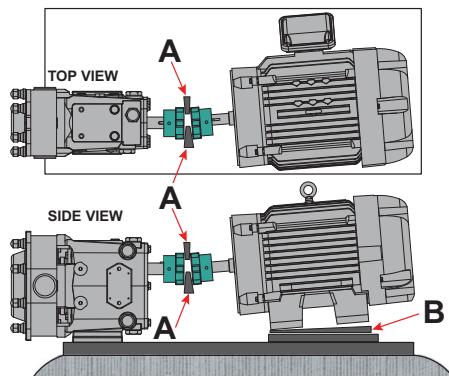

Figure 23 - Check Angular Alignment
- Using feeler gauges or taper gauges (Figure 23, items A and B), check the alignment at four points every 90 degrees around the coupling; **adjust to equal dimension at all points**.